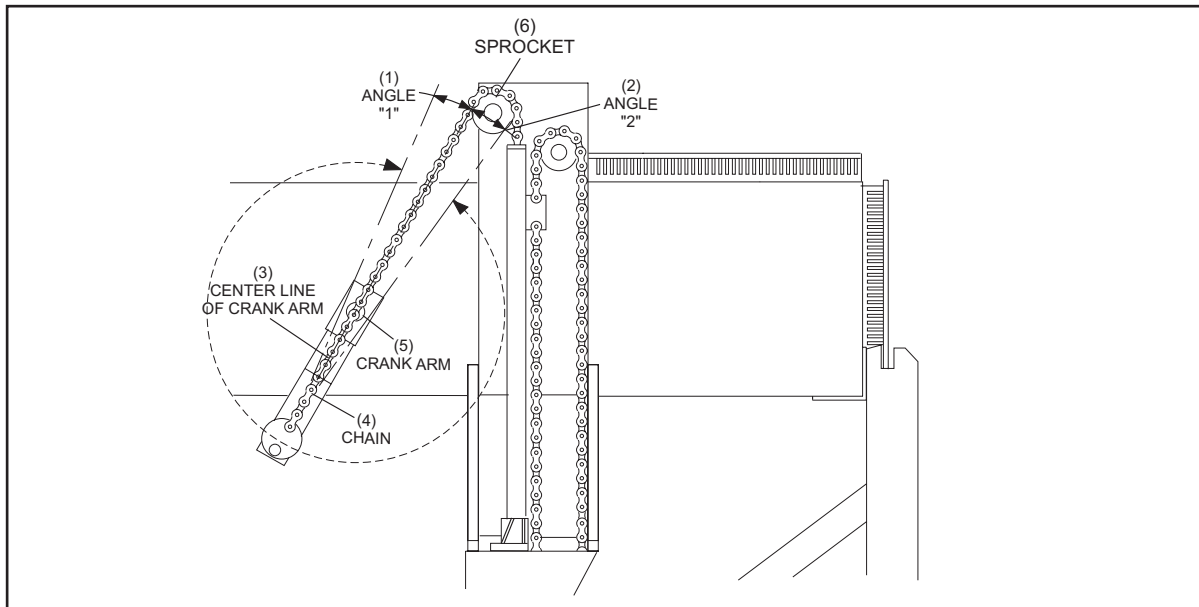

Figure 5-30 Chain Angles - Clockwise vs Counter-Clockwise
- To verify the timing is correct, compare the distance the drive chain is offset from the center line of the crank arm when the table motor turns off at the "A" switch after running clockwise and counterclockwise. The offset distances or angles should be equal. Refer to Figure 5-30.